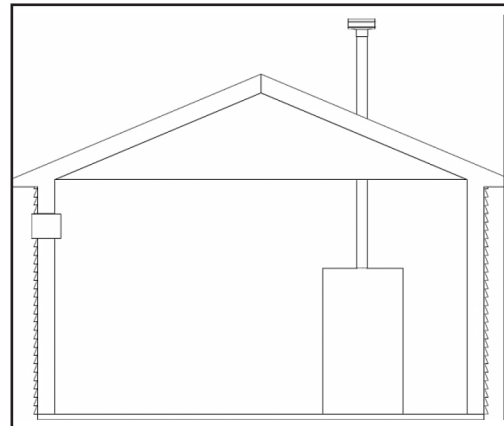

Figure 20 - Combustion Air from Outdoors - Single Opening
4. If a single combustion air opening is provided to bring combustion air in directly from the outdoors, the opening must be sized based on a minimum free area of one square inch per 3000 BTU/hr. This opening must be located within 12" of the top of the enclosure. See Figure 20.